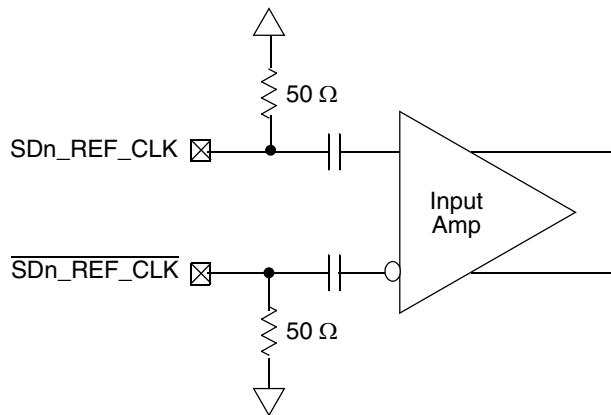

Figure 58. Receiver of SerDes Reference Clocks
Figure 58 shows a receiver reference diagram of the SerDes reference clocks.
- The SDn_REF_CLK and $\overline{SDn_REF_CLK}$ are internally AC-coupled differential inputs as shown in Figure 58. Each differential clock input (SDn_REF_CLK or $\overline{SDn_REF_CLK}$) has a 50- Ω termination to SGND (xcorevss) followed by on-chip AC-coupling.